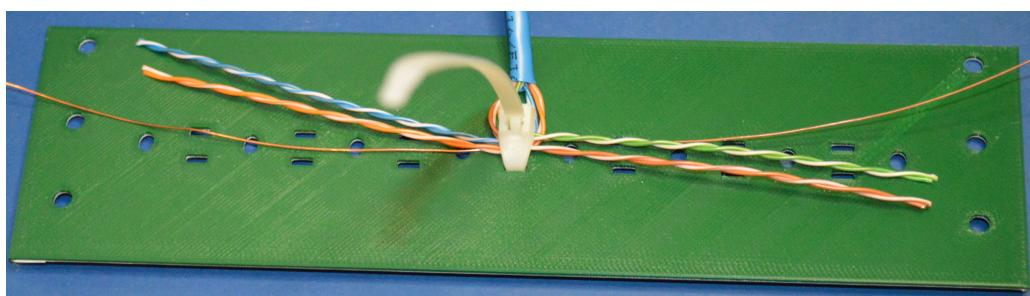

Figure 2.11: Attach the Cable to the Panel
- First using a cable tie, attach the cable to the panel. This helps to keep the cable from moving around while the LEDs are soldered. There is also a bare copper wire used as a ground/return wire for the LEDs. See Figure 2.11.